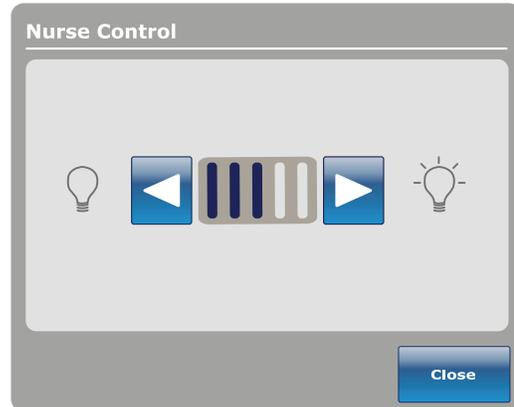

Figure 55: Nurse control LED intensity
2. Tap the left or right arrow (Figure 55 on page 70).
3. To save the LED intensity setting, tap **Close** (Figure 55 on page 70).